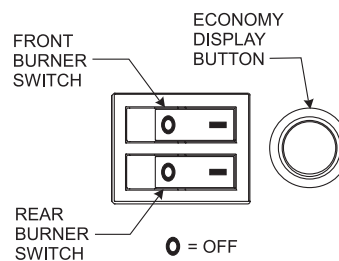

Figure 63
D. Turn both burner switches on to ignite both the front and rear burners. Burner switches must remain in the ON position for the remote to function. See Figure 63.
To turn the fireplace off, simply push "OFF" on the remote or switch the burner switch(es) to the "OFF" position. See Figure 63. DO NOT cut the main electrical power to the heater.
The circulating air blower will automatically engage and increase in speed depending on the operation of the burners. See Figure 63. In most circumstances, the circulating blower will start 3 to 5 minutes after ignition of the burners.